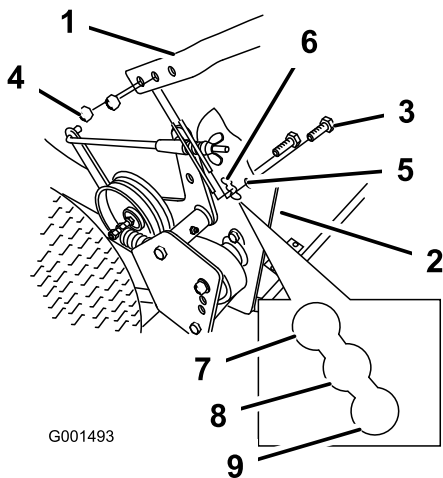

Figure 18
2. Loosen the upper bolts (3/8 x 1-1/4 inch) and flange nut securing handle to rear frame (Figure 18).
3. Remove the lower bolts (3/8 x 1 inch) and flange nuts securing handle to rear frame (Figure 18).